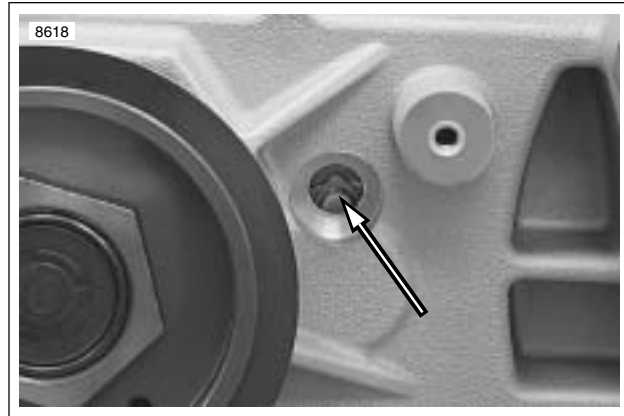

Figure 6-46. Shifter Drum Neutral Detent
9. See Figure 6-46. Place transmission in neutral. Remove neutral switch to ensure shifter drum detent is visible indicating transmission is in correct location.